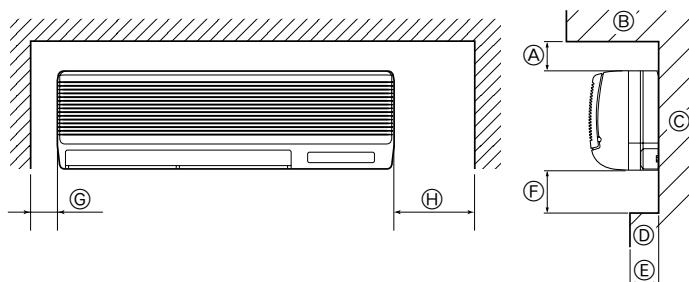

Fig. 2-1
①	Wall-fixing bracket	1	Fix at the back of the unit.
②	Tapping screw 4 × 35	12	Set in packing material.
③	Felt tape	3
④	Pipe cover	1
⑤	Band	3
⑥	Flare nut 3/8 F P50	1
⑦	Flare nut 5/8 F P50	1
2.1. Outline dimensions (Fig. 2-1)